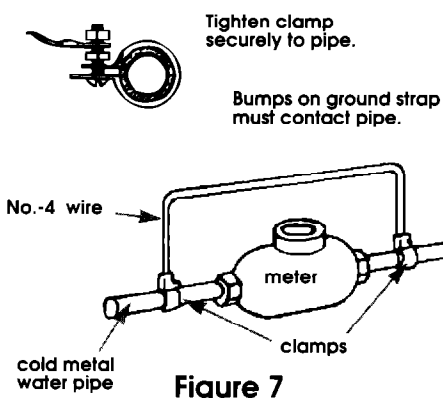

Figure 7
Connect grounding wire to a grounded cold water pipe* with the clamp and then to the external grounding connector on the dryer. See Figure 7. Do Not ground to a gas supply pipe or hot water pipe. Do Not connect the power supply cord to electric power supply until the appliance is permanently grounded.
* Grounded cold water pipe must have metal continuity to electrical ground and not be interrupted by plastic, rubber or other electrical insulating connectors such as hoses, fittings, washers or gaskets (including water meter or pump). Any electrical insulating connector should be jumped as shown in Figure 7 with a length of No.-4 wire securely clamped to bare metal at both ends.